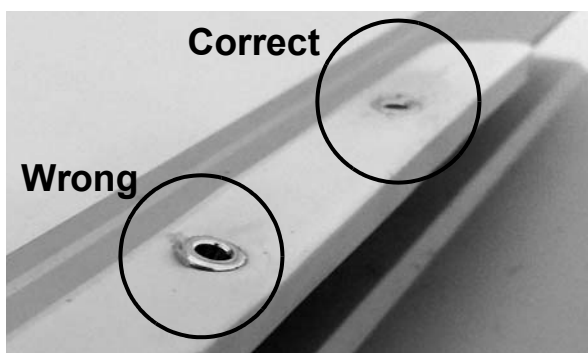

Figure 47
2. Check that the rivets do not protrude over the surface of the slide rail. Check both top and underneath surface of slide rail for protruding metal. (See **Figure 47**.)